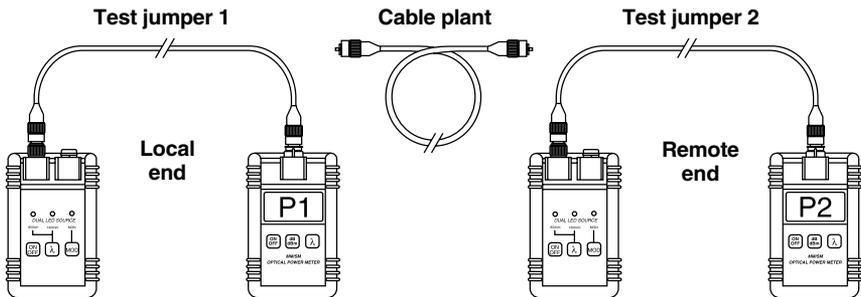

Figure 5-4. Checking the local test sets.
1. If a complete test set (light source and power meter, ideally both Dual LED Source and Optical Power Meter) is available at each end, we advise testing the output power of the sources and the condition of the test jumpers (patch cables) before starting to measure the link's attenuation. Connect each source and meter together with a test jumper as shown in Figure 5-4. The sources should be set to output in continuous-wave (CW) mode. The meters should be set to the correct wavelength and to dBm measurement units. Write down the dBm readings that appear in the meters' LCD panels (represented by "P1" and "P2" in Figure 5-4); they should be approximately -13 dBm \pm 1 dB for 850-nm 62.5/125- μ m multimode or -20 dBm \pm 1 dB for 1300-nm 62.5/125- μ m multimode.